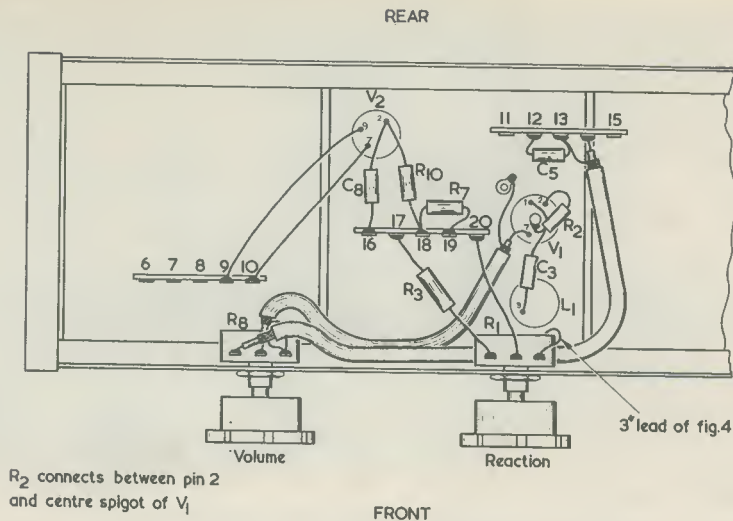

Fig. 5. Completing the under-chassis wiring
filed or cut off (in the case of a pip) or bent outward (in the case of a lug) so that the potentiometer can sit squarely. When mounted, the potentiometer shaft length should be such that, when one of the smaller K402 knobs is fitted to it, the rear of the knob is in the same plane as the rear of the tuning drive knob. Thus, the potentiometer has to be temporarily fitted to find the required shaft length, then removed so that the excess shaft material can be cut off with a hacksaw. (Remember the point made last month that it may be necessary to apply a file to the inside of the knob bush to remove proud metal from the grub screw holes). When the potentiometer is finally mounted, its tags should project away from the Chassis Plate, as illustrated in Fig. 5. After mounting, fit the knob.
54. Following the route shown in Fig. 5 and keeping it close up against the underside of the chassis, run the screened lead to R_8 . At R_8 , connect the centre conductor to the centre tag of R_8 . Solder at this tag. Connect the braiding to the right hand tag (potentiometer shafts pointing towards the reader).
56. Following the route shown in Fig. 5 and keeping it close up against the underside of the chassis, run this second screened lead to R₈. Connect its centre conductor to the left hand tag of R₈, and solder at this tag. Connect the braiding to the right hand tag of R₈.
Turn the reaction control, R_1 , fully anticlockwise. With the finger, touch the tag of the volume control, R_8 , which connects to the non-earthed end of the track. (This is the extreme left-hand tag in Fig. 5). A hum should be heard from the loudspeaker, varying in intensity as the volume control is operated. This "grid hum" test is very well known to service engineers and is frequently employed in rough checks of valve a.f. amplifier stages. The inexperienced should not use this test in equipment employing chassis which are connected to one side of the mains and, obviously, care should be taken not to touch h.t. points.